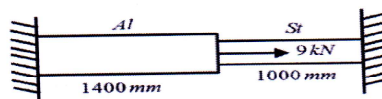

Figure 2
- c) Two bars one of aluminium and other of steel are joined together and subjected to load as shown in Figure 2. Determine the displacement at common joint. Take c/s area of aluminium bar 2000 mm^2 , c/s area of steel bar 400 mm^2 , Young's modulus of aluminium bar 70 GPa and steel bars 200 GPa . [8]